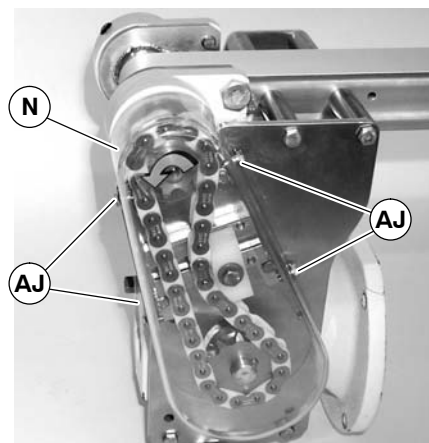

Figure 16
NOTE: Do not over-tighten screws (AJ of Figure 16).
5. Install cover (N of Figure 16) and tighten four screws (AJ) to 35 in-lb (4 Nm).